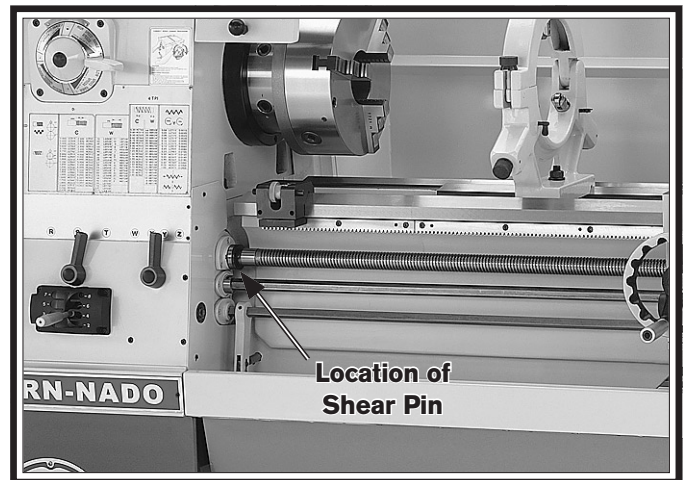

Figure 128. Location of shear pin.
2. Clean debris and grime from the shear pin area (see **Figure 128**).